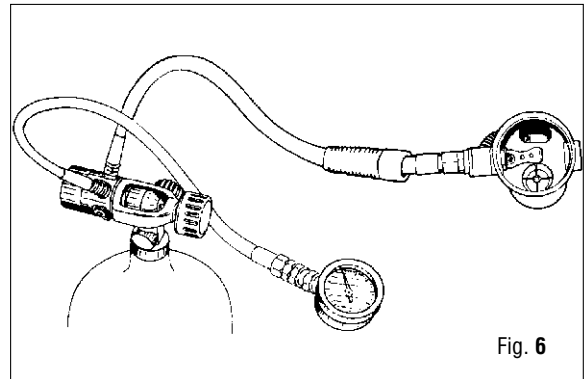

Fig. 6
2. Attach the first stage to a full tank (2000-3000 psi). (See Fig. 6).